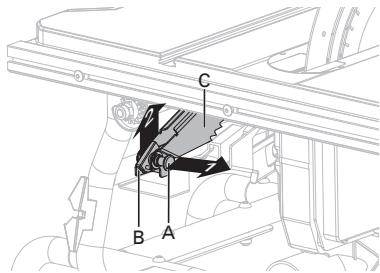

Fig. 8a
ANTI-KICKBACK PAWLS AND BLADE GUARD INSTALLATION (Fig. 8a-8b)
- Pull out and hold knob (A) and push anti-kickback pawls up, remove it from the anti-backpawls storage (B) located on inside of the left side of saw. (Fig. 8a)
- Pull out and hold knob (A). Align slot in anti-kickback pawls (C) over the slot (D) indicated of riving kinfe (E). Place the spring pin (F) on the anti-kickback pawls (C) into the slot (D) indicated on the riving knife (E).
- Press anti-kickback pawls (C) down until it snaps into place and release knob (A) to insert the pin (G) into hole (H) indicated on the riving knife (E).